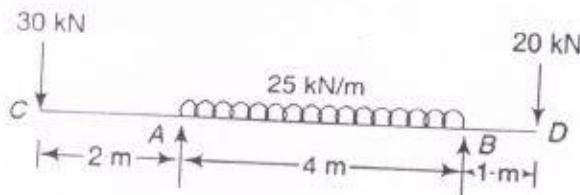

Fig. 3
Q.3. B Draw SF and BM diagram for the beam shown in Fig. 3 and identify the point of maximum bending moment.